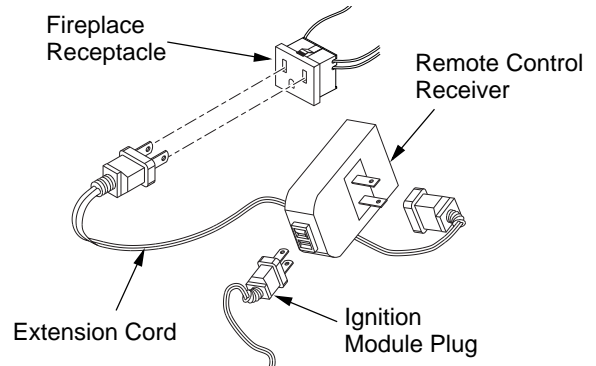

Figure 47 - Installing the WRC Remote Receiver
2. The WRC model receiver does not require a battery. The receiver can be installed by first plugging the short extension cord into the fireplace receptacle. Then plug the receiver into the extension cord. Finally plug the ignition module plug into the receiver unit (see Figure 47).